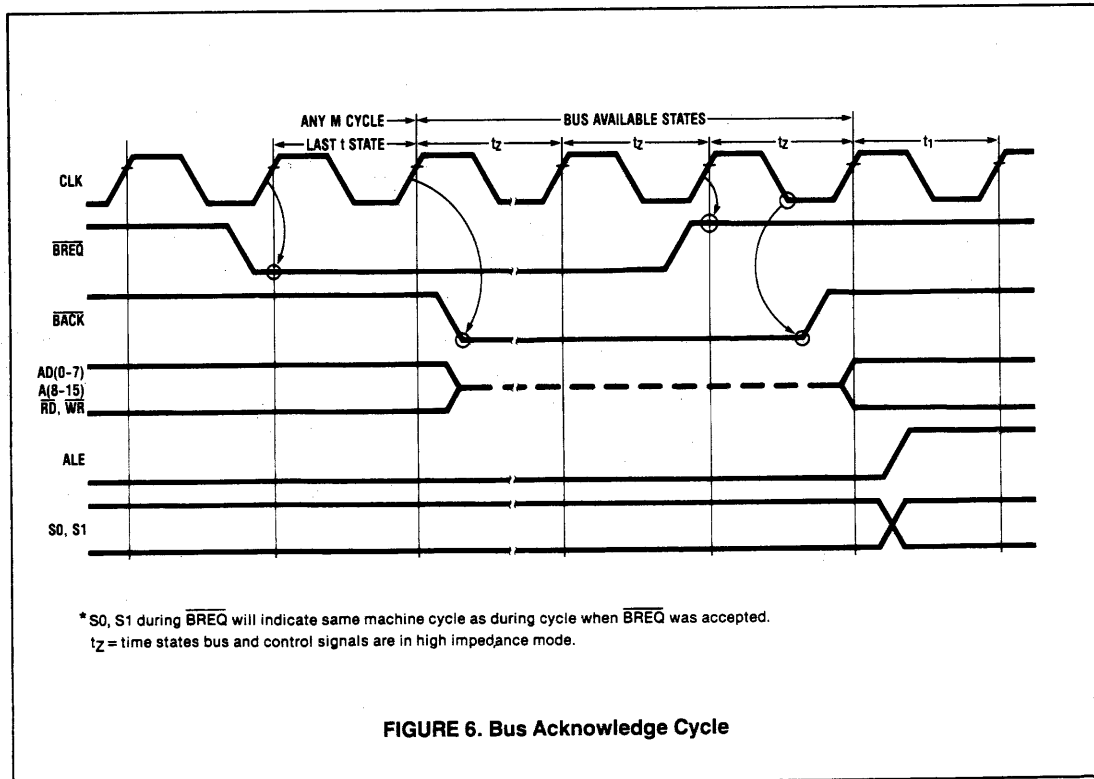

FIGURE 6. Bus Acknowledge Cycle
Figure 6 illustrates bus access control in the MPU800. The external device controller produces an active BREQ signal that requests the bus. When the CPU responds with BACK then the bus and related control strobes go to high impedance (TRI-STATE). It should be noted that (1) BREQ is sampled at the last t state of any M machine cycle only. (2) the MPU800 will not acknowledge any interrupt/restart requests, and will not perform any dynamic RAM refresh functions until after BREQ input signal is inactive high. (3) BREQ signal has priority over all interrupt request signals, should BREQ and interrupt request become active simultaneously.